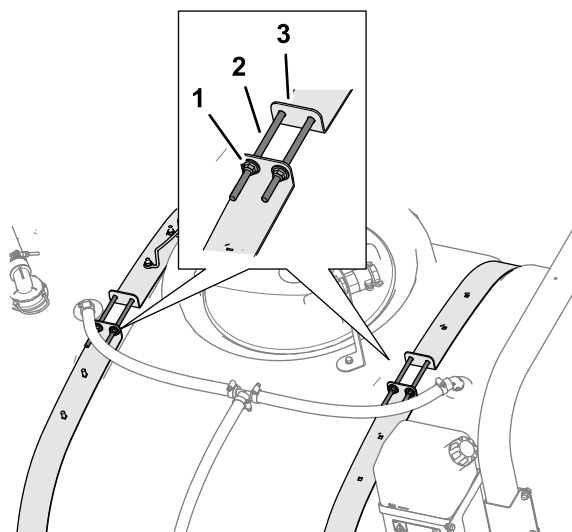

Figure 7
- Loosen the 4 flange locknuts and 4 bolts that secure the tank-strap halves (**Figure 7**).
3. Tighten the 4 flanged locknuts and 4 bolts at the top of straps until the straps are flush with the surface of the tank (Figure 7).